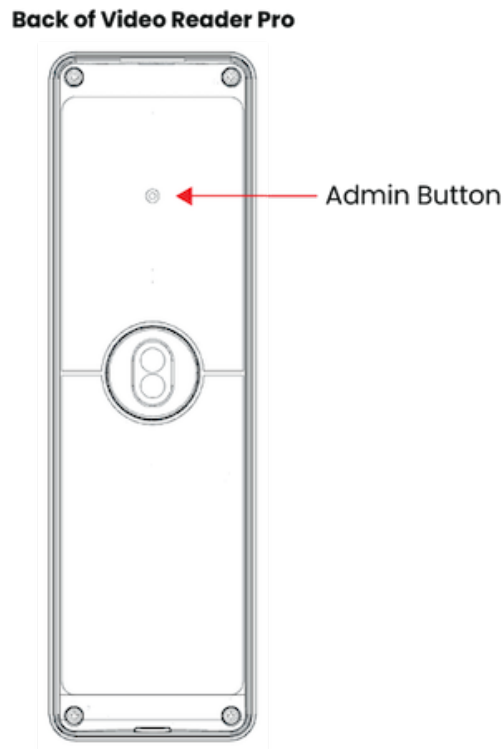

Figure 11 Video Reader Pro Admin button
3. Press Admin button (Figure 11 on the next page) on back of Video Reader Pro.
3. Press Admin button (Figure 11 below) on back of Video Reader Pro.